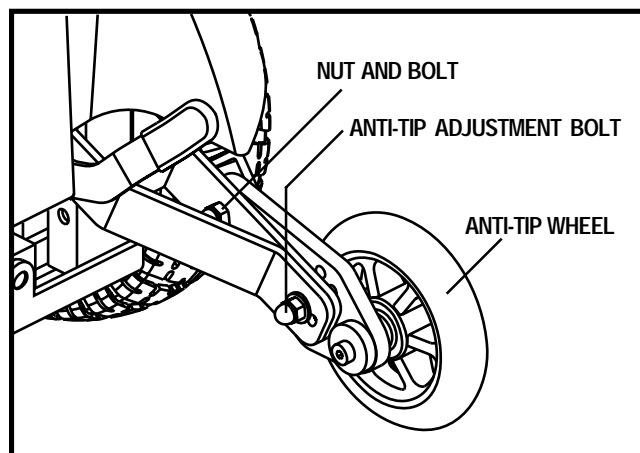

Figure 32. Anti-Tip Adjustment
2. Loosen the nut and bolt that fasten the anti-tip spring to the anti-tip arm. See figure 32.